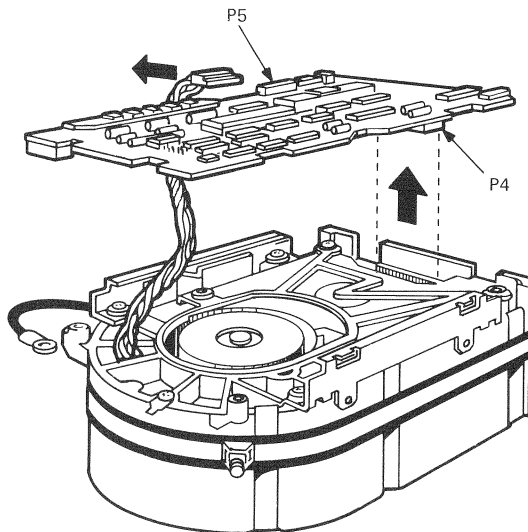

Figure 8-15 MPCB Removal
6. Lift the MPCB straight up until it clears the chassis. This disconnects P4, a 12-pin fixed plug (Figure 8-15).